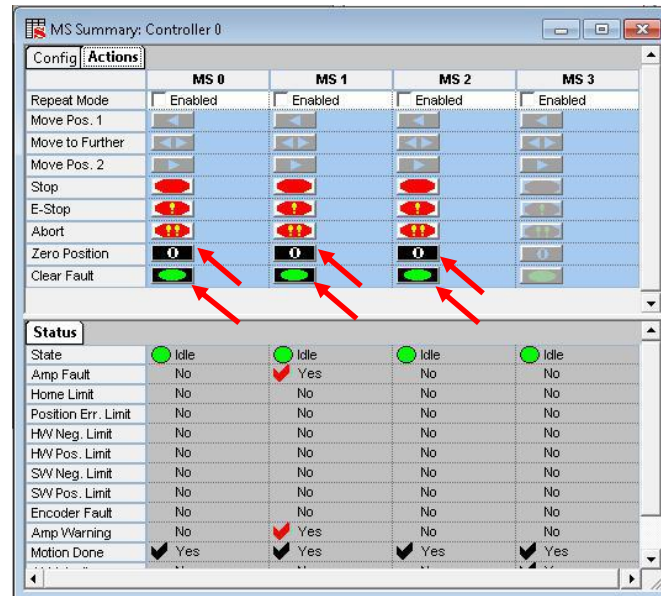
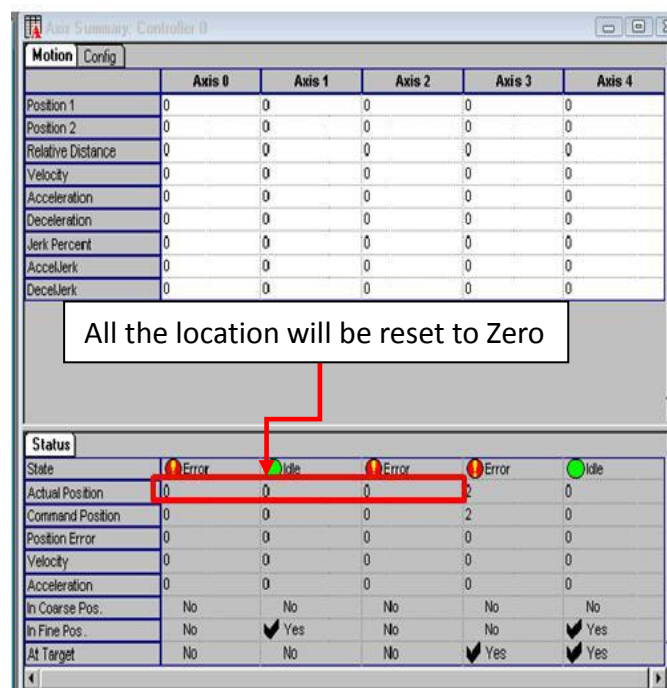

Figure 16 MS Summary (Motion Supervisor Summary)
Figure 17 Axis Summary (Actual position)
27. Reset all MS0, MS1 and MS2 at the MS Summary (Motion Supervisor Summary) as shown in Figure 16. Once reset for all the axis, the actual position for MS0, MS1 and MS2 will become zero as shown in Figure 17.